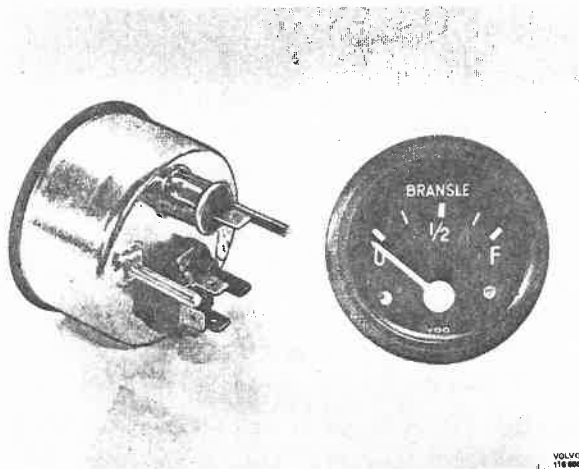
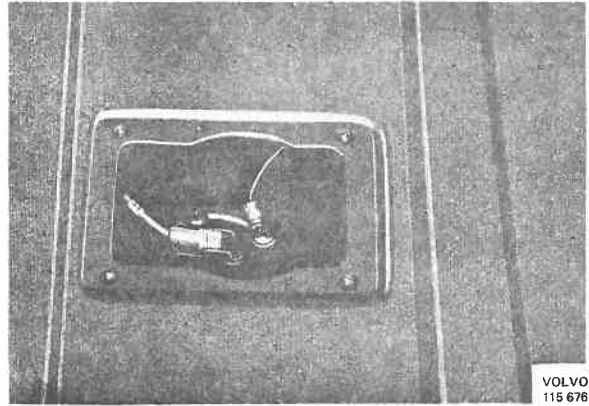
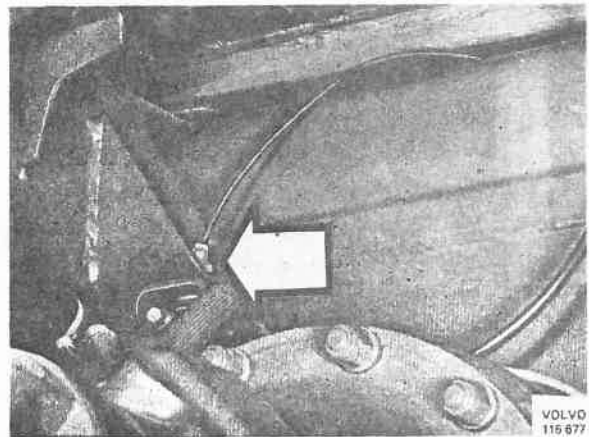

Fig. 38-14. Fuel gauge
Fig. 38-15. Fuel tank level sending unit
Fig. 38-16. Earth cable for fuel tank level sending unit
If the fuel gauge, Fig. 38-14, gives a faulty reading or no reading at all, then the fault may be in the actual gauge, or in the tank level sending unit, see Fig. 38-15, or in the cables. Before testing, check that the connections at the gauge and the tank level sending unit are in good condition. Also check the earth cable, see Fig. 38-16, to the tank level sending unit. Test with a voltmeter or a test lamp that there is voltage at the input side of the gauge (when the ignition key is turned to switch on the electrical circuit). If the cables and contacts are in good condition, continue testing as follows:
1. Remove the four screws securing the cover over the sending unit, see Fig. 38-15.